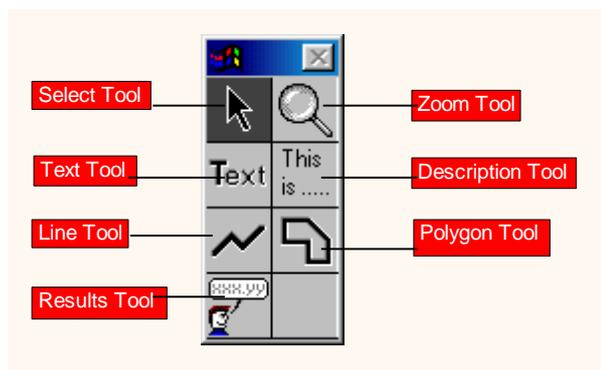

Figure 2-2: general main palette
The palettes are used for drawing objects such as texts and lines, and for zooming in. The arrow in the main palette states the selection mode, the neutral state (see Figure 2-2).
1. Click the “Text” button in the main palette (see Figure 2-2)
1. Press the Line symbol in the main palette (Figure 2-2)
1. Press the Polygon tool in the main palette (see Figure 2-2). The pointer changes into the polygon symbol.